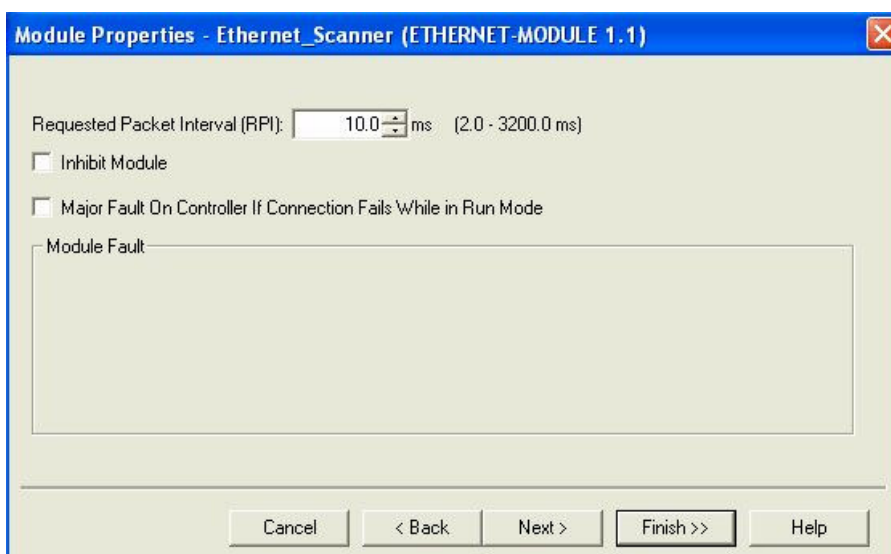

Figure 12. Requested Packet Setting
5. Click the NEXT button to set the Requested Packet Interval time. The default setting should be sufficient for most applications. When finished with the Requested Packet Interval screen, click the FINISH button to exit. Refer to Figure 12.